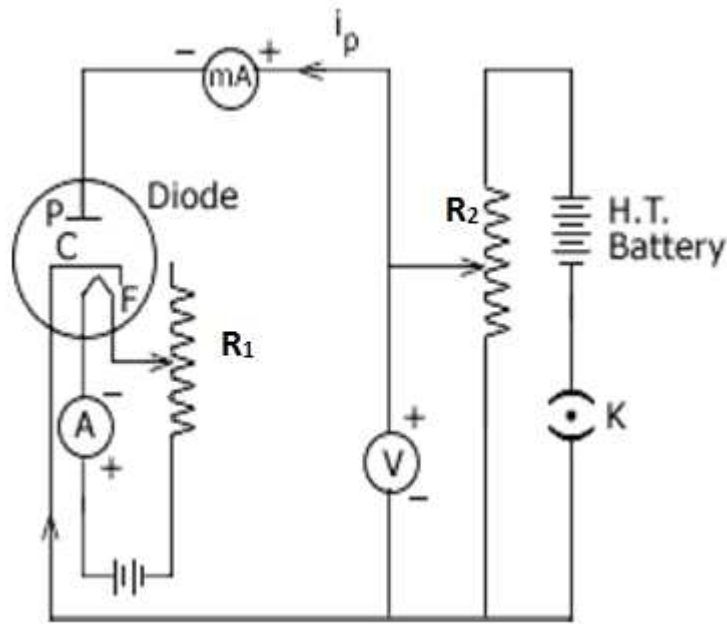

Figure 2
The apparatus in the experiment is a simple electric circuit as shown in figure 2. The triode valve have three electrode 6V battery is connected to the electric bulb with rheostat. For the measurement of current and voltage the DC Voltmeter (0-10V) & DC ammeter (0-1 A) are connected.
1. Make electrical connection as shown in figure 2.